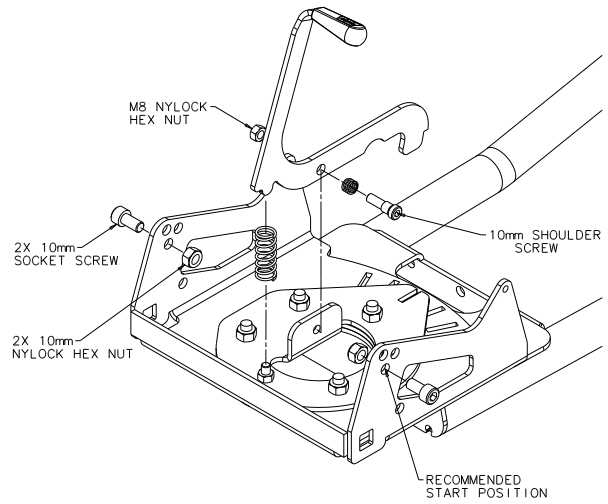

Figure 1 Assemble Plow Lever
1. Assemble the plow lever arm per figure 1. Run a 10mm dia shoulder bolt through the lever arm side and out the center hole in the plow base. Use the small compression spring between the shoulder screw and the latch. Terminate with a 8mm dia lock nut. Tighten until the shoulder screw is firmly against the plow base. Latch lever should rotate freely.
2. Attach two socket screws to the side flanges of the plow base as shown in figure 1. Place the socket screw in one of the three holes in the side flange, and place the other socket screw in the same location on the opposite side. Terminate with a 10mm dia lock nut.